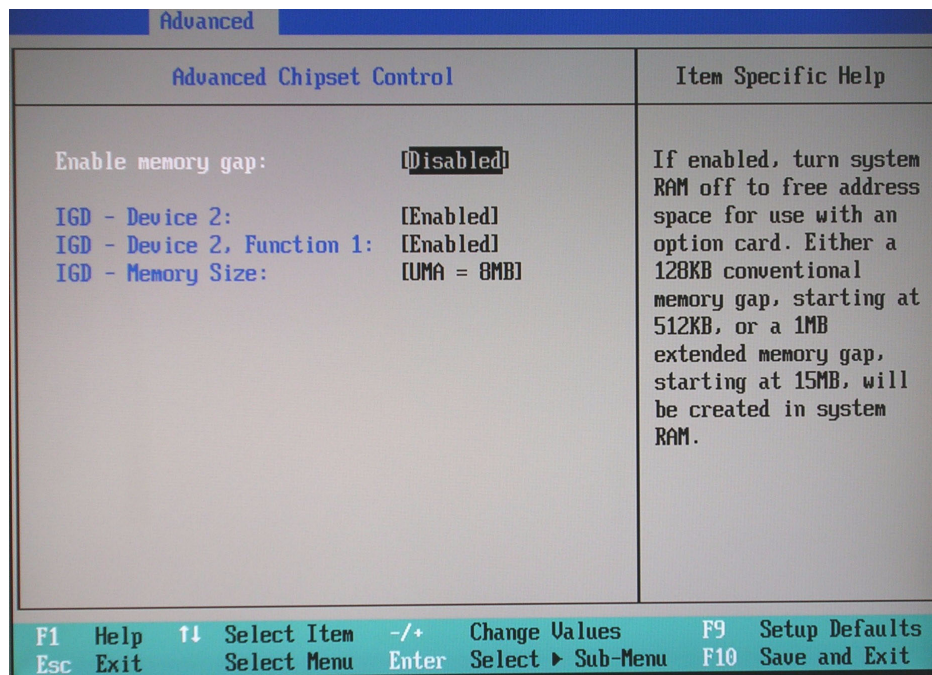

Figure 8-110 BIOS Advanced Chipset Control Parameters
Chipset Control	Figure 8-110 on page 8-110
- 2.) Press <Enter> to access **Advanced Chipset Control** (Figure 8-110).
- 3.) Set the parameters for **Enable memory gap**: as shown above in Figure 8-110.